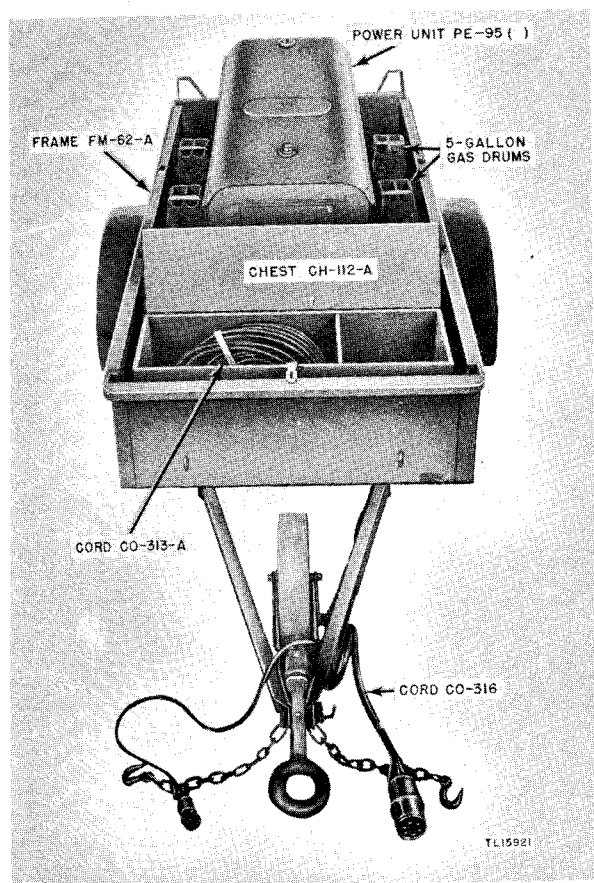

Figure 10. Power Unit PE-95- ( ), installed in Trailer K-52- ( ).
- a. Installed in Trailer K-52-( ). (See fig. 10.)